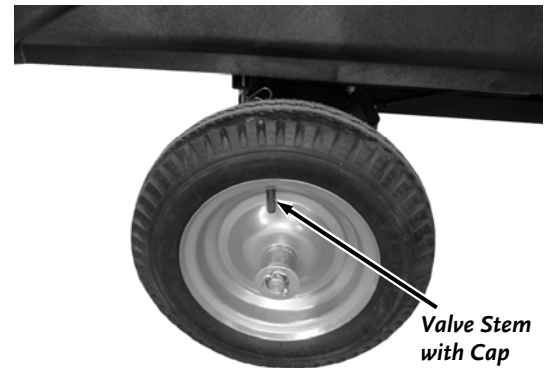

Figure 59
1. Remove the Valve Stem Protective Cap (**Figure 59**) and check the tire pressure with a Tire Pressure Gauge.